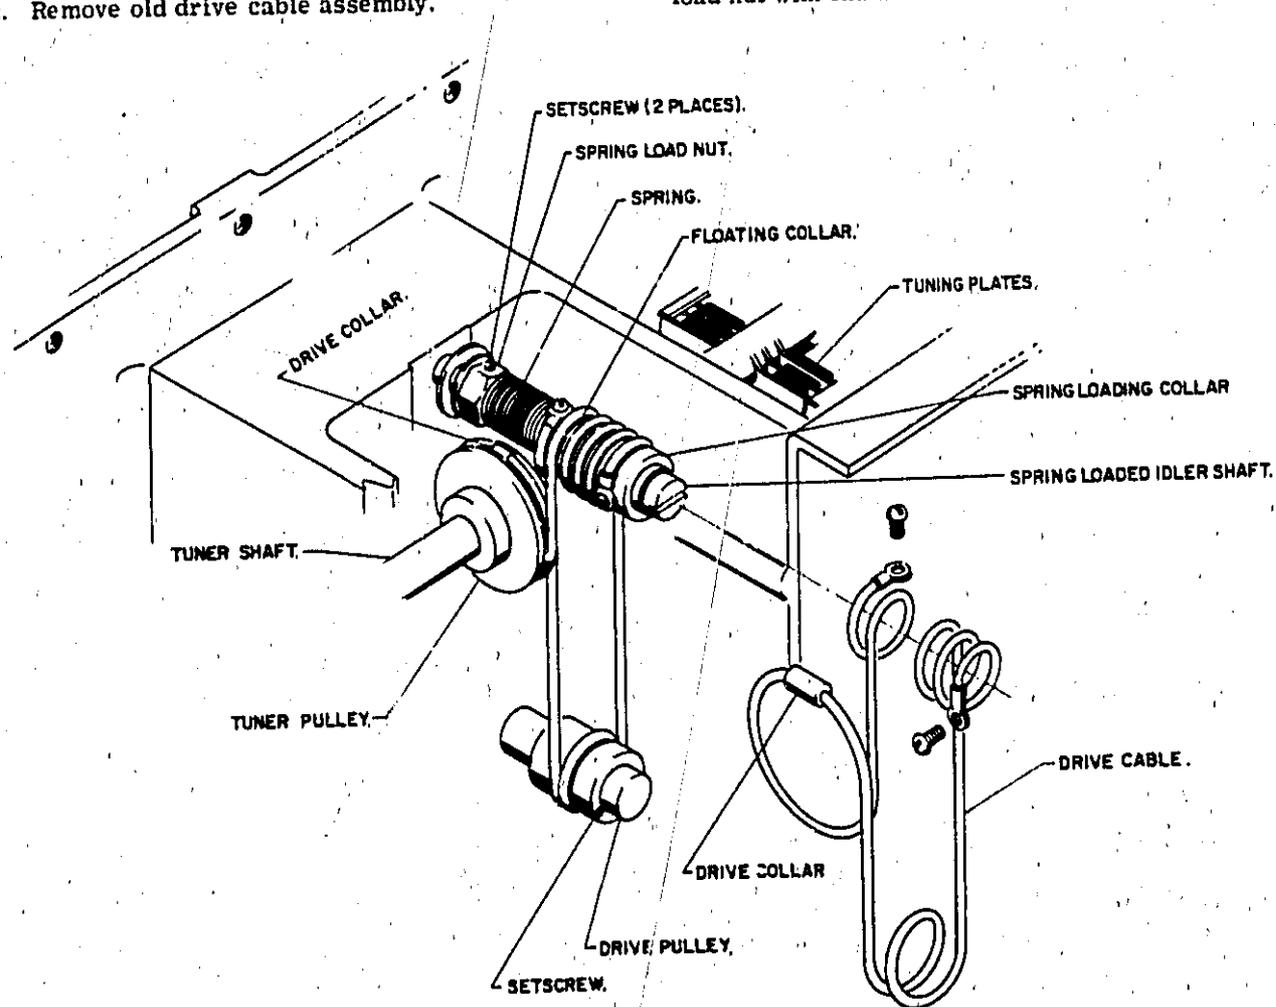

Figure 5-12. Installation of Drive Cable Assembly
c. Refer to Figure 5-12. Loosen the two setscrews in spring load nut and the one setscrew in end of drive pulley.
f. Wrap short end of drive cable around tuner pulley as shown in Figure 5-12. Attach end of cable to floating collar on spring-loaded idler shaft with 4-40 x 1/4 inch round-head machine screw.
h. Wrap one and a half turns of drive cable around drive pulley as shown in Figure 5-12.